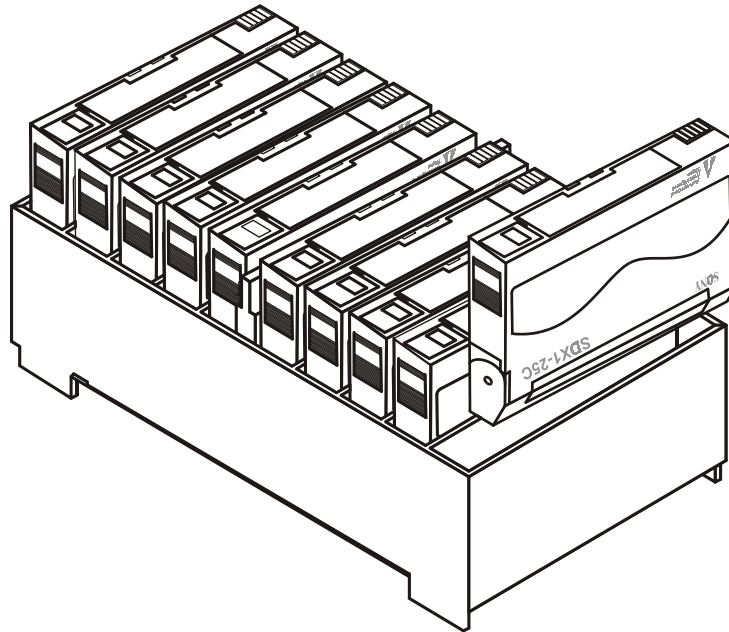

Figure 1-13 Installing data cartridges in the magazine
1. Place the magazine on its feet with the single mounting guide toward the right, as shown in Figure 1-13.